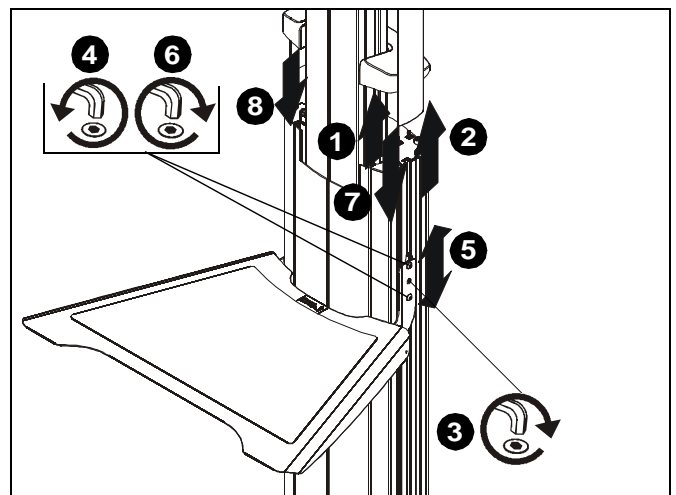

Figure 6
1. Remove column inner cover from cart/stand. (See Figure 6)
2. Remove side covers from cart/stand by sliding them up the channel. (See Figure 6)
3. Loosen set screws on each side of shelf. (See Figure 6)
4. Loosen all button head cap screws holding shelf to column. (See Figure 6)
5. Adjust shelf height to desired level. (See Figure 6)
6. Tighten all button head cap screws holding shelf to column. (See Figure 6)
7. Reinstall side covers into side slots on cart/stand column. (See Figure 6)
8. Reinstall column inner cover to cart/stand column. (See Figure 6)